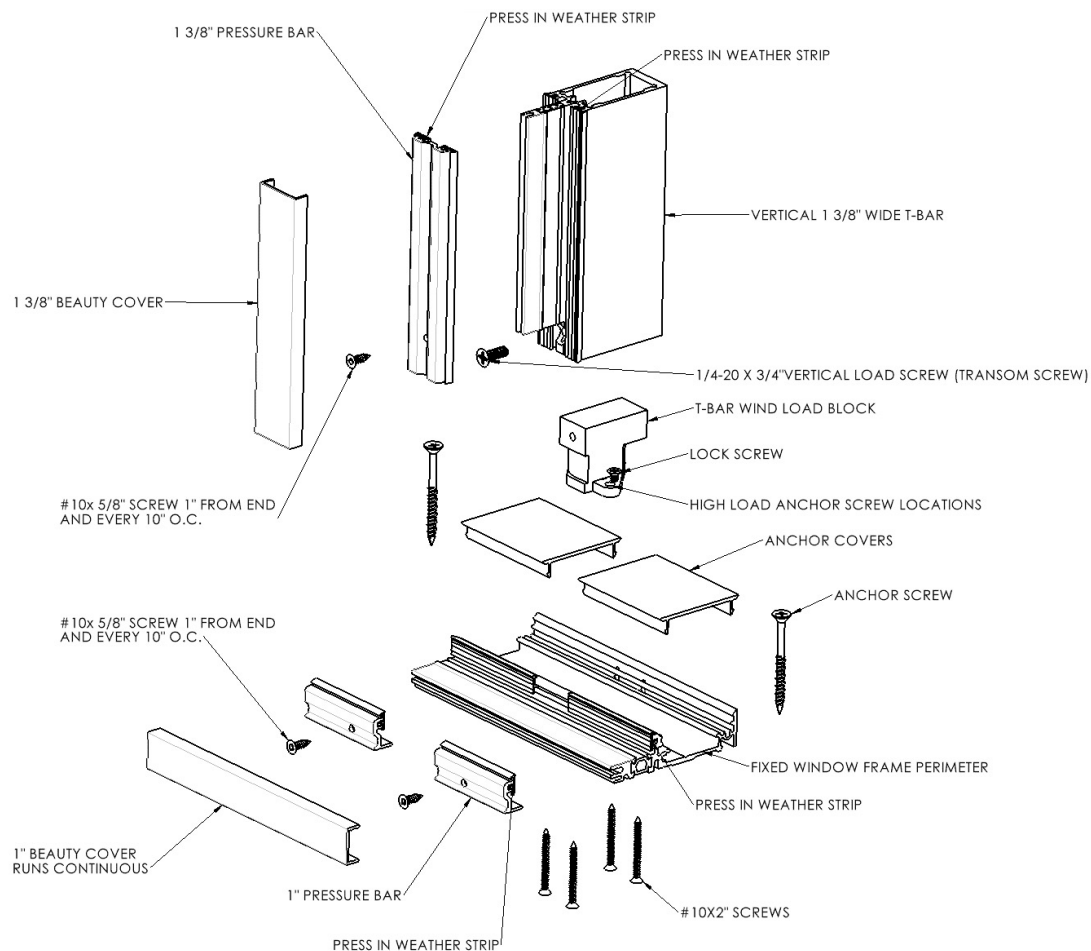

Figure 23
*See Figure 23 for a magnified view of a vertical T-bar and perimeter frame intersection.